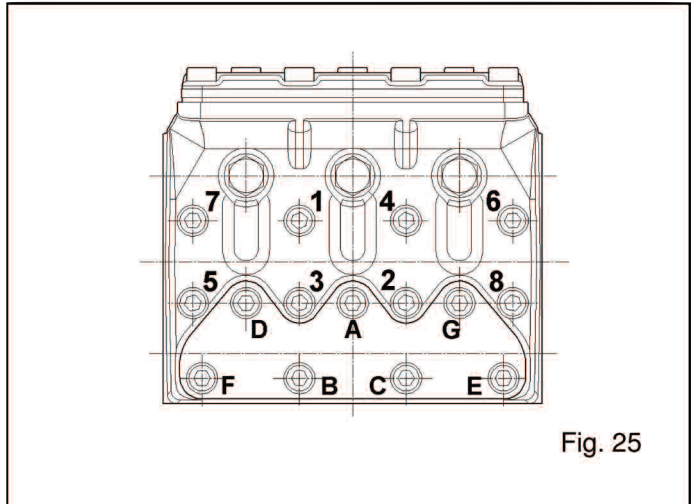

Fig. 25
D) To Reassemble the valves proceed the other way around, and tighten the cover screws with a torque wrench. The table on page 17 contains the screw tightening torque values and Fig. 25 indicates the sequence.